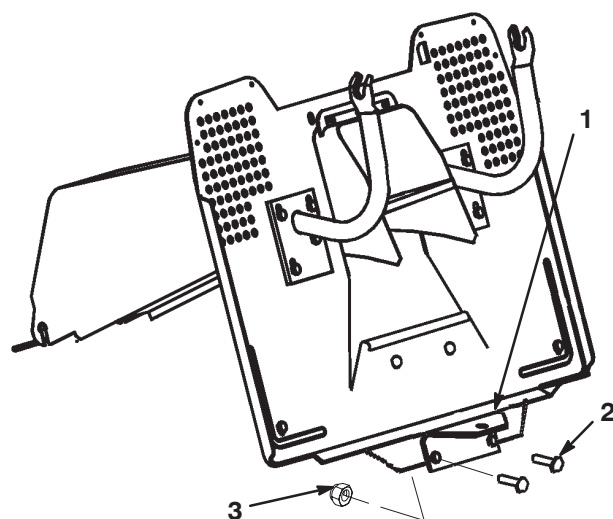

Figure 3
2. Attach the hitch with two bolts and nuts (Fig. 3).